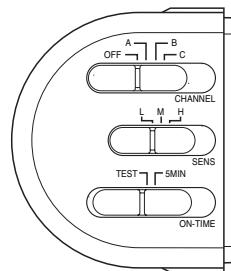

Figure 7
2. Slide the CHANNEL switch to OFF, the sensitivity (SENS) switch to the "L" position, and the ON-TIME switch to the TEST position (see Figure 7). *Note:* The TEST mode overrides the photocell (daylight shutoff feature) and allows the light fixture to be tested day or night.
1. Slide the CHANNEL switch to the desired channel (A, B, or C) on all lights to be linked together (see Figure 7).